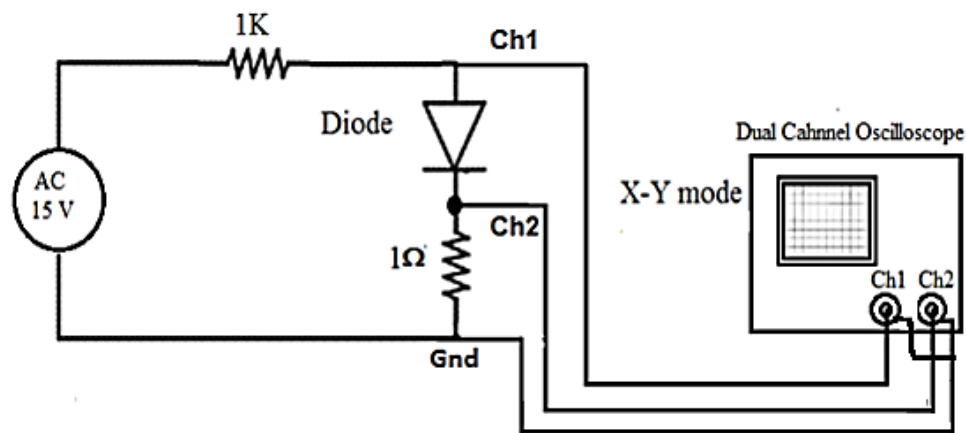

Figure 1.4. the practical circuit to plot Diode characteristics on the oscilloscope.
1. Connect the circuit as shown in Fig.1.4.